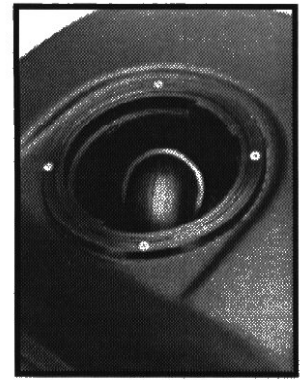

figure 4
sensitive float mechanism attached. (Figure 4) As the water level rises, the float ball will rise into the tube and shut off the air flow of the vacuum. It does not shut off the vacuum motor.
- Close and secure the round lid on the tank. (Figure 4)